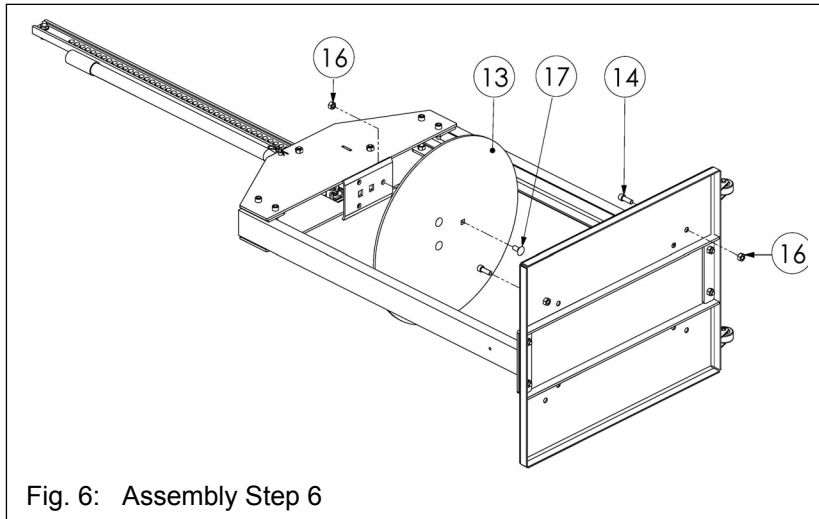
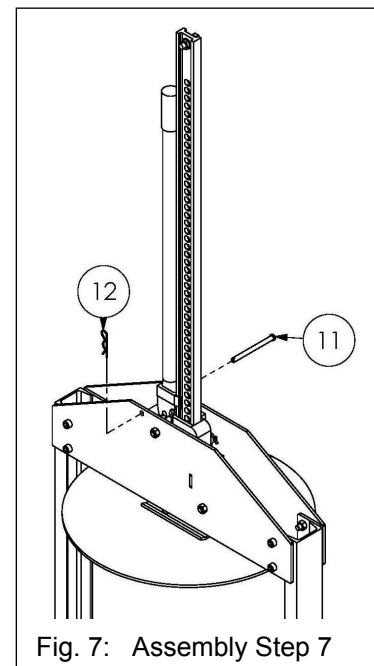
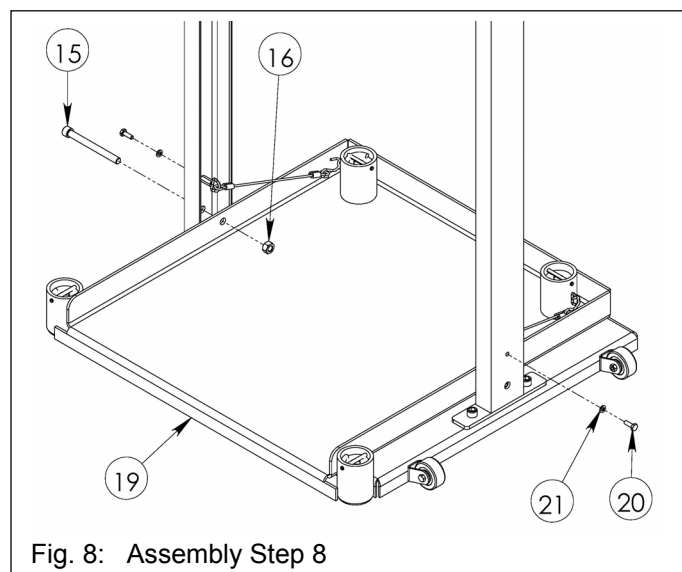
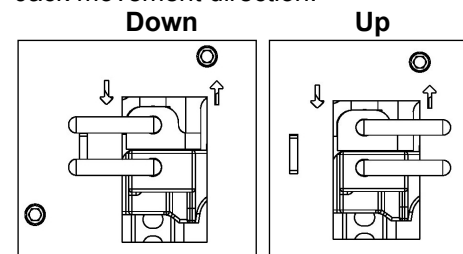

Fig. 6: Assembly Step 6
Fig. 7: Assembly Step 7
Fig. 8: Assembly Step 8
FIG. 9: Jack Direction Levers
**Step 6:** Connect the compactor plate (13) to the end of the jack with the carriage bolts (17) along with 7/16-14 nylock nuts with warning labels facing the jack (Fig. 6). Place 7/16-14 x 1 1/4" bolts into correct holes for drum stop (Fig. 7). The inside holes are for 30 gallon drums and the outside holes are for 55 gallon drums.
**Step 7:** Store the compactor with the handle in an upright position. To secure the handle, insert the clevis pin (11) into hole when unit is not in use. Lock the pin in place with the hitch pin clip (12). (See Fig. 7.)
**Step 8: MTC-RB ONLY:** Place  $\text{Ø } 1/4 - 20 \text{ UNC X } 3/4$  bolts and 1/4in. lock washers through vertical support holes (Fig. 8).
**Step 9: MTC-RB ONLY:** Insert #15 bolt through the bottom hole on either vertical support weldment, and through the hole on the roll-out tray when moving unit (Fig. 8).
Step 1: Free the jack handle by removing the storage pin (11) (Fig. 7). Turn the jack direction levers to the “UP” position (Fig. 9), and fully raise the compactor plate. **MTC-RB units:** remove the bolt securing the roll-out tray (see Fig. 8 on p. 5).
Step 3: Turn the jack direction levers to the “DOWN” position (Fig. 9).
Step 6: Once compaction is complete, turn both direction levers to the “UP” position (Fig. 9).
Step 8: Put the jack handle in the storage position with the clevis pin (11). Secure the clevis with the hitch pin (12) (see Fig. 7 on p. 5).
Step 9: Remove the waste storage drum. If you have the MTC-RB model, roll out the tray, remove drum and push back onto the base weldment. MTC-RB model only: Lock the tray assembly in the storage position with a bolt (15) and nylock nut (16). (See Fig. 8 on p. 5.)